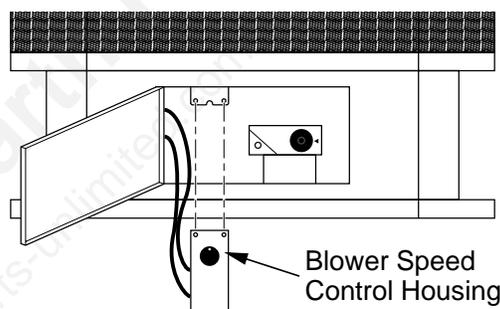

Figure 17 - Installing Blower Control Housing
9. Route ends of 3-wire power cord up from the lower control compartment through the plastic bushing, then up to the upper cavity of stove (see Figure 17, page 13).
13. Install plastic control knob onto output shaft of speed control housing (see Figure 17). Place speed control housing just inside control compartment door in front of stove (see Figure 17).